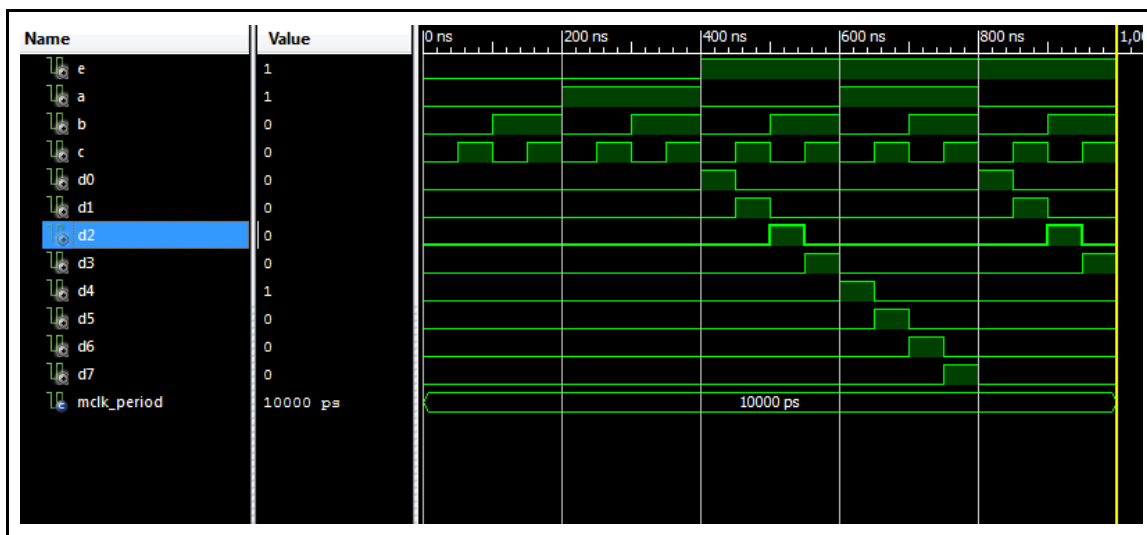

Figure 6. Behavioral Simulation of Sprinkler Controller Circuit
- Make groups of signals to establish an expandable heirarchy; instead of deleting the extra signals that are not inputs or outputs (e.g. period_VAR and duty_cycle_VAR), we can group these into a signal group and contract the group so that it is not visible (as shown in Figure 6 below)